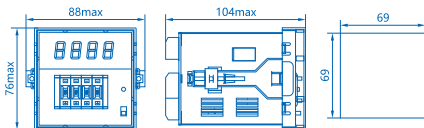

Figure 1 Outline and Installation Size of JDM1-9
3.1 Outline and installation size: see Figure 1~ Figure 3, unit: mm.